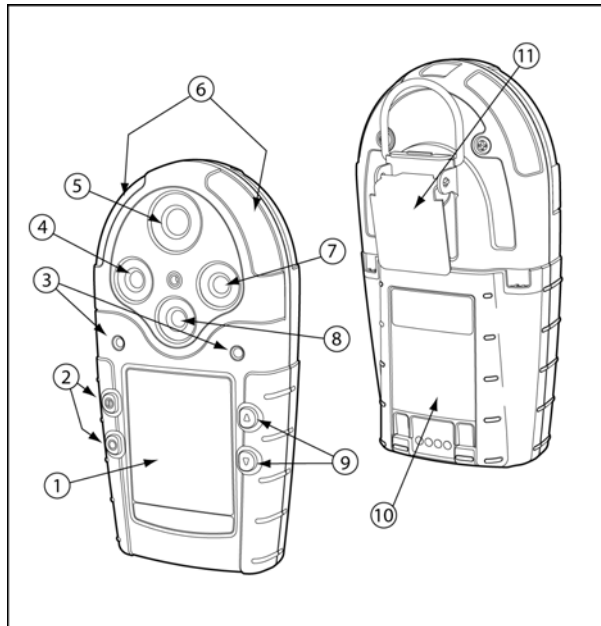

Figure 1. Parts of the GasAlertMicro 5/PID/IR
- Figure 1, and Table 4, describe the detector's components.